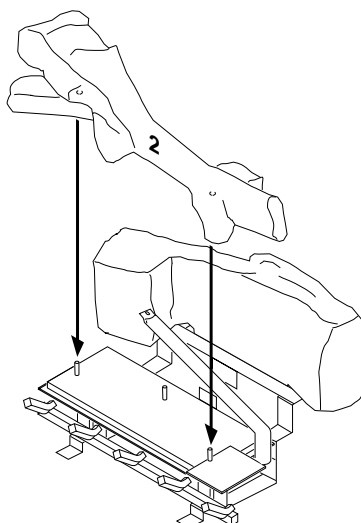

Figure 47 - Installing Log Assembly No. 2
2. Place log #2 (two log assembly) onto pins on left and right of the front burner (see Figure 47). The middle pin is not used.